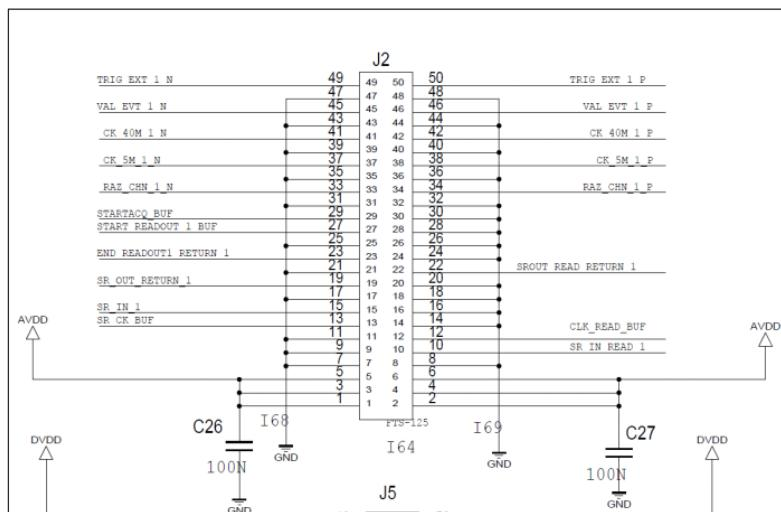

Figure 1.23: J2 connector pin-out
2. Then take a 50 pins flat cable (that you are then going to connect to the J2 connector). Cut in the middle the wires number 13, 49 and 50 (SR\_CK\_BUF, TRIG\_EXT\_N and TRIG\_EXT\_P respectively). Refer to Figure 1.23 for the flat cable pin-out. Strip the “ASU end” of these wires. By ASU end I mean the end that is not to be connected to the interface but to the ASU. If needed do the same for the other flat cables coming out the connectors J6, J8 and J10.